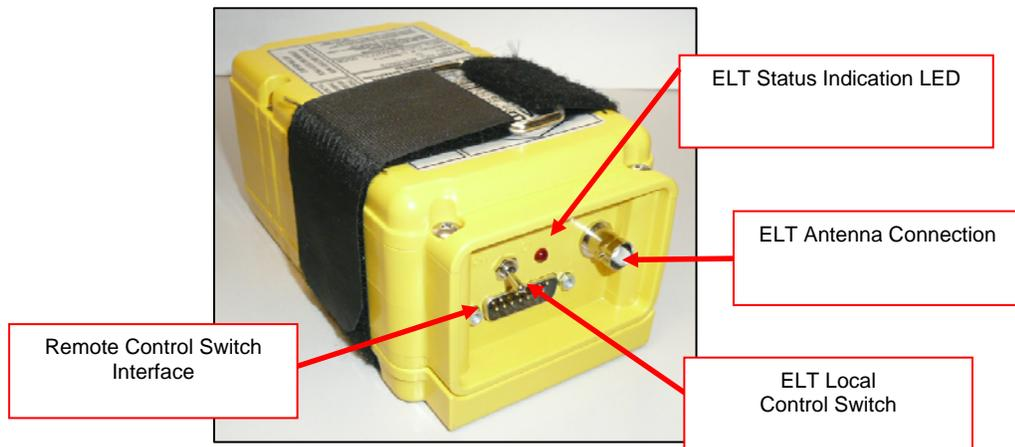

Figure 25-38 ELT Reset
4. To "RESET" the ELT, locate the RESET button as shown in Figure 25-38.